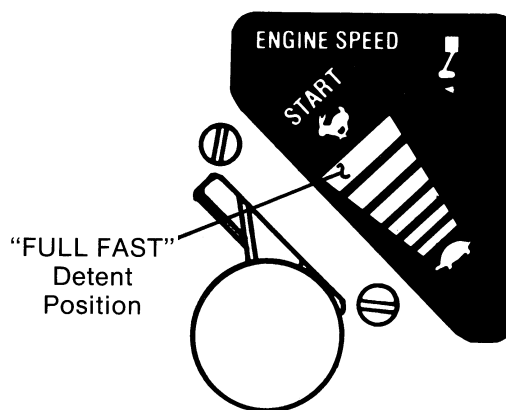

FIG. 8
P. To replace engine, reverse above procedure until you reach the point of connecting the throttle control cable. Then follow this adjustment procedure: Move throttle control lever up to the "FULL FAST" position (which is the detent before "START" position is reached). (Fig. 8) Attach end of throttle control cable to throttle speed control block and slip cable under cable clamp. Push throttle cable up until tang on speed control lever just touches choke link, as shown in (Fig. 4). Tighten cable clamp screw.